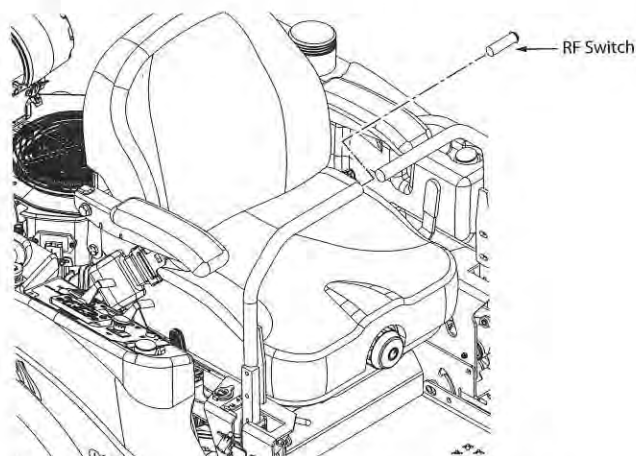

Figure 3-28. RF Switch Installation
11. Remove and retain the two (2) 3/8-16 x 1 1/4" bolts, lock washers and flat washers securing the right hand drive handle to the control lever bar.
16. Install the RF switch into the end of the right hand drive handle. See Figure 3-28. It may be necessary to add a light application of silicone to retain the switch in the handle.